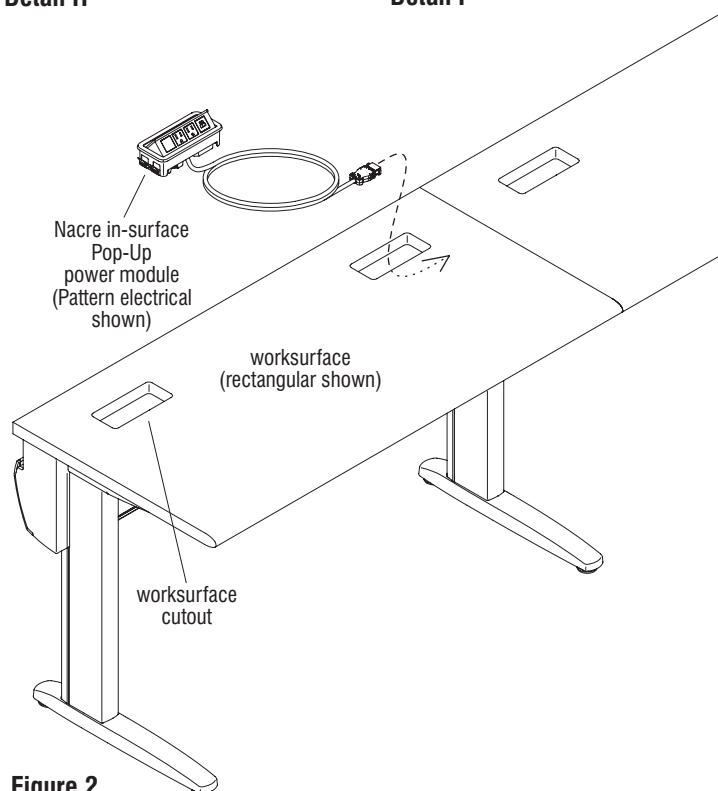

Figure 2
2. Orient the Nacre in-surface pop-up power module as shown and route the connector end (or plug end) down through the worksurface cutout. Press the module down firmly into the cutout to secure in place, making sure the two clips on each side of the module catch under the cutout bottom edge of the worksurface (Figure 2 & Detail F).